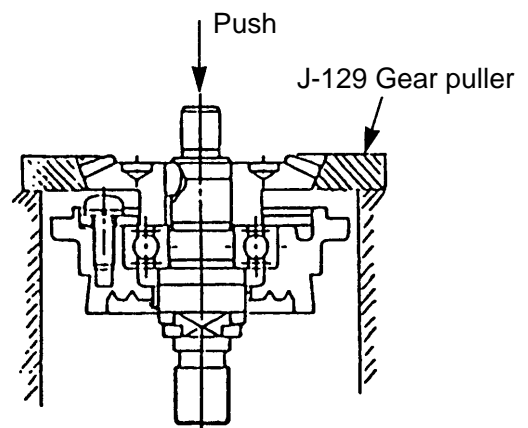

Fig. 5
- (1) Loosen the M4 x 12 Seal Lock Screw **[23]**, and remove the Packing Gland **[22]** together with the Spindle **[25]**, and Gear **[17]** from the Gear Cover Ass'y **[4]** in a single body.
- (2) As illustrated in Fig. 5, support the angled surface of the Gear **[17]** with a J-129 gear puller (special repair tool, Code No. 970905), rest the J-129 gear puller on a J-130 sleeve (special repair tool, Code No. 970907), and push down on the tip of the Spindle **[25]** with a hand press to remove the Gear **[17]**.